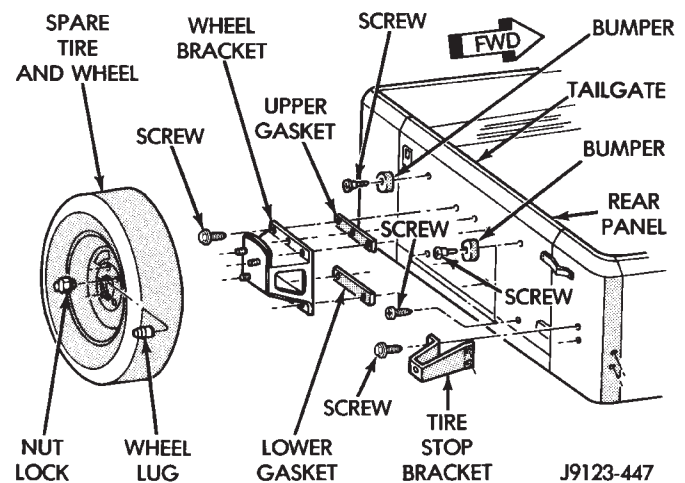

Fig. 121 External Spare Tire/Wheel Carrier
(1) Remove the spare tire and wheel from the wheel bracket (Fig. 121).
(2) Remove the screws that attach the wheel bracket to the tailgate (Fig. 121).
(3) Remove the bracket and the gaskets from the tailgate (Fig. 121).
(4) Remove the screws that attach the stop bracket to the rear panel and the bumpers to the tailgate (Fig. 121).
(5) Remove the stop bracket and the bumpers from the vehicle (Fig. 121).
(6) Clean the contact surface areas on the tailgate and the rear panel.
(1) Position the stop bracket and the bumpers on the vehicle (Fig. 121) and install screws. Tighten the screws to 11 N·m (95 in-lbs) torque.
(2) Position the gaskets and the wheel bracket on the tailgate and install the attaching screws (Fig. 121). Tighten the screws to 23 N·m (204 in-lbs) torque.
(3) Install the spare tire and wheel on the wheel bracket (Fig. 121). Tighten the wheel lug nuts and the nut lock to 68 N·m (50 ft-lbs) torque.